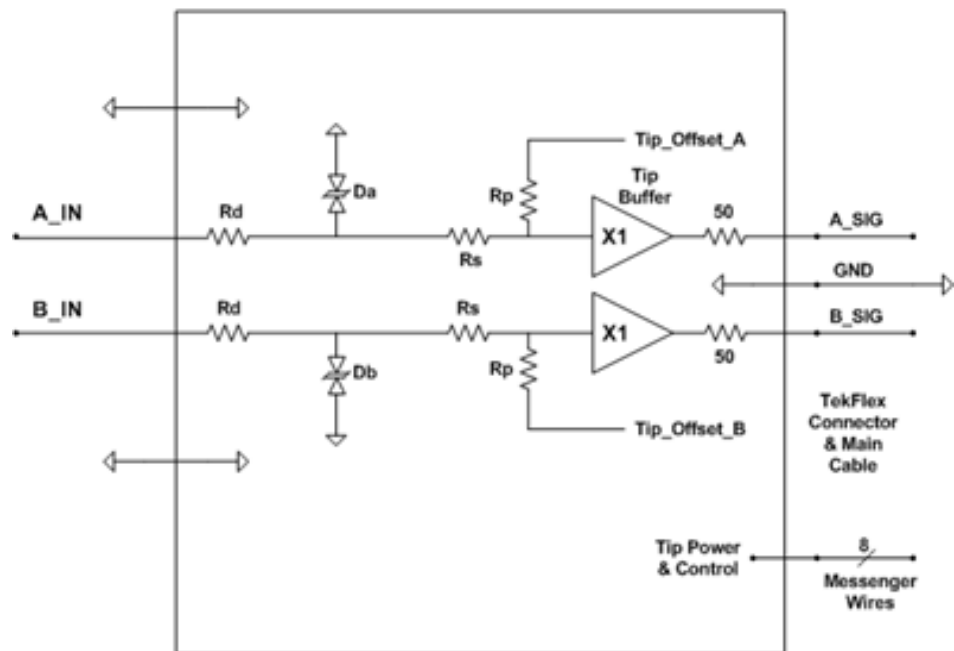

Figure 5: P7700 probe tip inputs
**Input voltage** The maximum input voltage is the maximum voltage to ground that the inputs can withstand without damaging the probe input circuitry. The P7700 Series active probe tips include some over-voltage protection circuitry at the probe tip signal inputs. (See Figure 5.) Transient voltage suppression diodes, Da and Db, provide bidirectional voltage clamping of signals applied to the probe tip inputs. These TVS diodes limit potential ESD damage as well as signal over-voltage damage to the active tip buffer amplifier device.